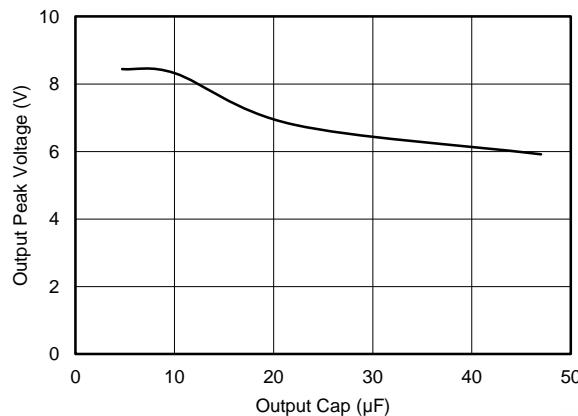

Figure 16. V_{OUT} Peak Voltage vs C_{OUT}
When V_{IN} ramp up exceed 7.6 V, V_{OUT} follows V_{IN} until the TPS25200 turns off the internal MOSFET after $t_{(OVLO_off_delay)}$. Since $t_{(OVLO_off_delay)}$ largely depends on the V_{IN} ramp rate, V_{OUT} sees some peak voltage. Increasing the output capacitance can lower the output peak voltage as shown in Figure 16.
- For output capacitance, refer to Figure 16, low ESR ceramic cap is recommended.